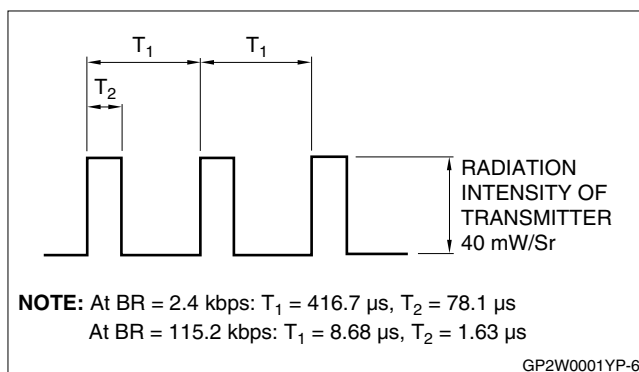

Figure 6. Input Signal Waveform (Detector Side)
- $V_{CC} = 3\text{ V}$ ,  $I_{OL} = 400\ \mu\text{A}$ . See Figures 6, 7, and 8.
- BR = 115.2 kbps. See Figures 6, 7, and 8.
- $V_{OH}$ ,  $V_{OL}$ ,  $t_w$ ,  $t_r$ ,  $t_f$  shall be satisfied at  $\phi \leq 15^\circ$ . See Figures 6, 7, and 8.